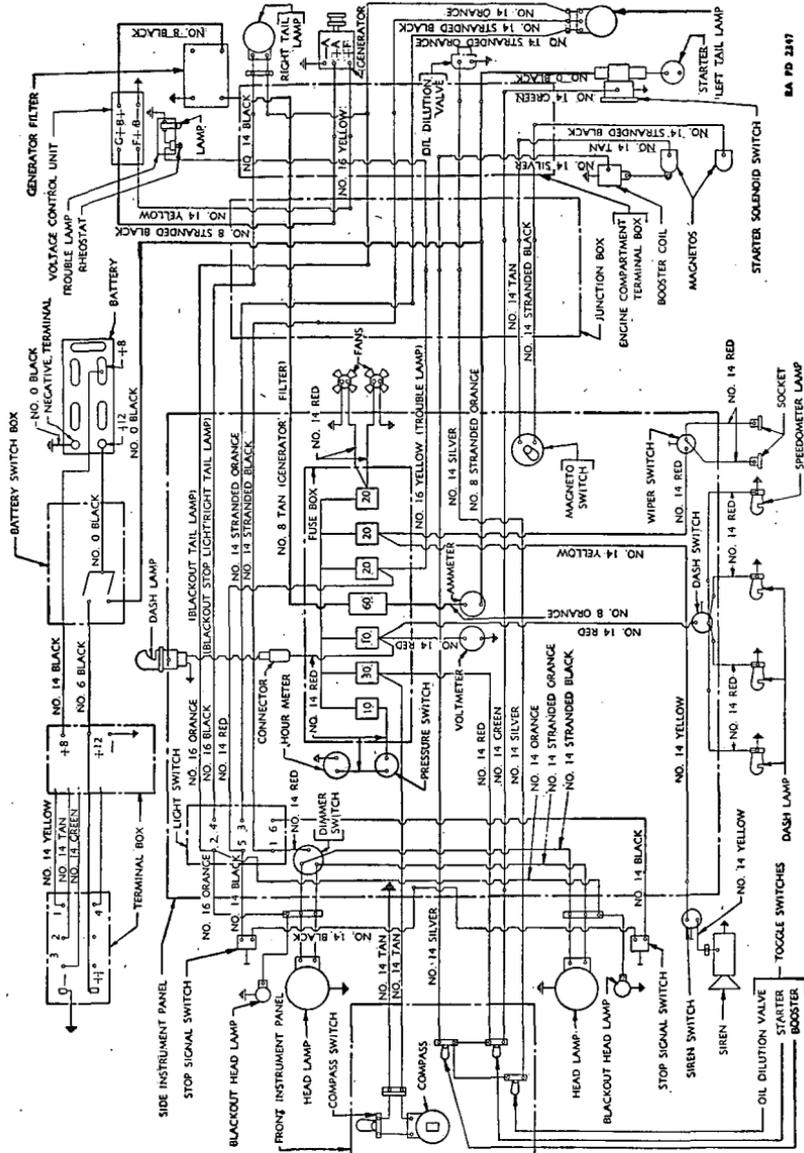
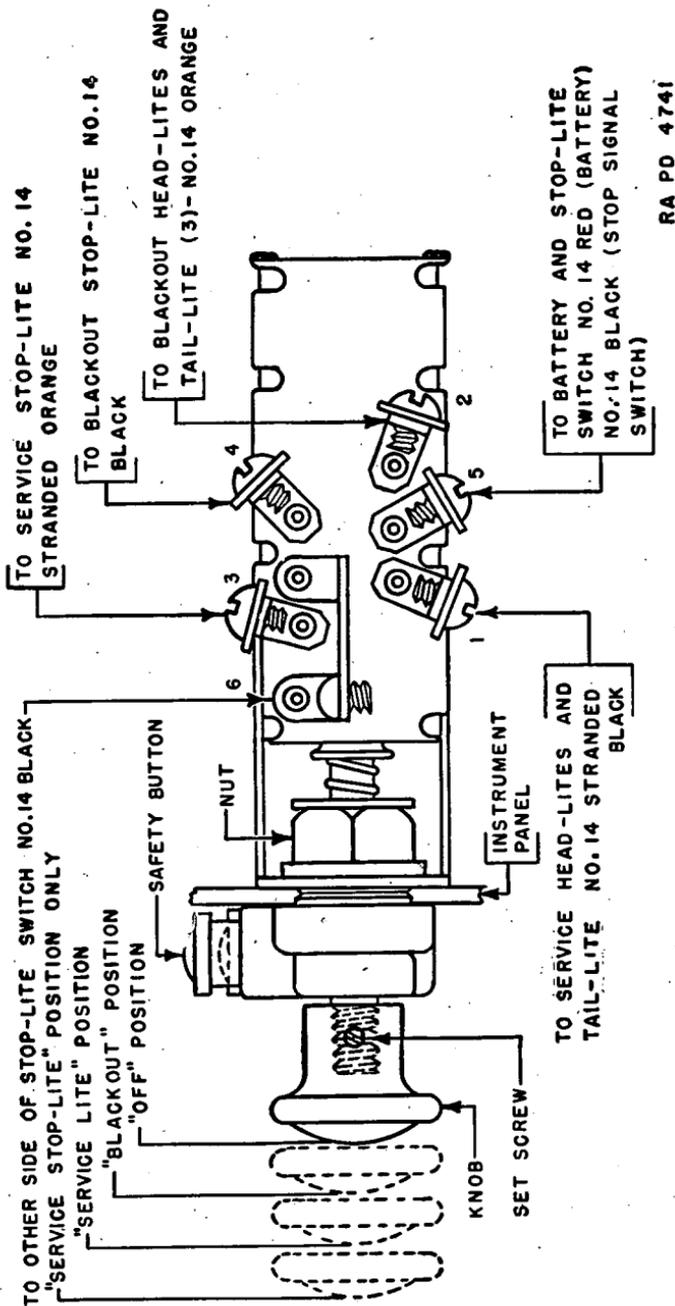

Figure 98.—Wiring diagram.
Figure 99.—Light switch.
118. Generator.—The engine of the vehicle drives a 12-volt direct current generator. Under normal operation of the vehicle, the generator supplies enough current to operate all of the electrical equipment. Consult the wiring diagram (fig. 98). For replacement and other details of this unit see paragraph 57.
(2) *Replacement.*—If the ammeter is defective, use the following procedure for replacement (refer to fig. 96 and wiring diagram, fig. 98):
(2) *Replacement* (refer to fig. 96 and wiring diagram, fig. 98).—
terminals, since one small drop of solder falling into the switch may cause a short circuit. If there is not sufficient slack in the wires leading to the magneto switch from the junction box, install new wires. Consult the wiring diagram (fig. 98).
3. Remove and tag wires from switch (see wiring diagram, fig. 98).
e. Lighting switch (fig. 99).—(1) *Operation.*—The exterior lights on the vehicle are controlled by a 4-position push-pull switch. Starting from the “off” position, pulling the knob of the switch out to the first notch provides current for the blackout headlights, taillight, and stoplights. A safety button must be depressed before the switch knob can be pulled to the second position. This position supplies current for the operation of the service headlight, taillight, and stoplights. A dimmer switch in the headlight circuit must be in the “on” position for full illumination of the terrain in front of the vehicle. The third position of the switch provides current for the service stoplight only.
(2) *Replacement.*—The members near the terminal screws in figure 99 correspond with the numbers in wiring diagram figure 98. Use the following procedure in replacing the lighting switch:
(2) *Replacement* (see figs. 8 and 96 and wiring diagram, fig. 98).—Use the following procedure in replacing defective push-pull switches:
h. Stop signal switch (fig. 98).—(1) *Operation.*—Two stop signal switches, connected in series, are used to complete the electrical circuit for operation of the service and blackout stoplights. Each steering lever operates one switch through a linkage. Since the switches are in series, both steering levers must be pulled back, or the brake bands contracted on the drums, before the circuit is completed and the stoplights function. These switches are mounted on the transmission case on either side of the differential.